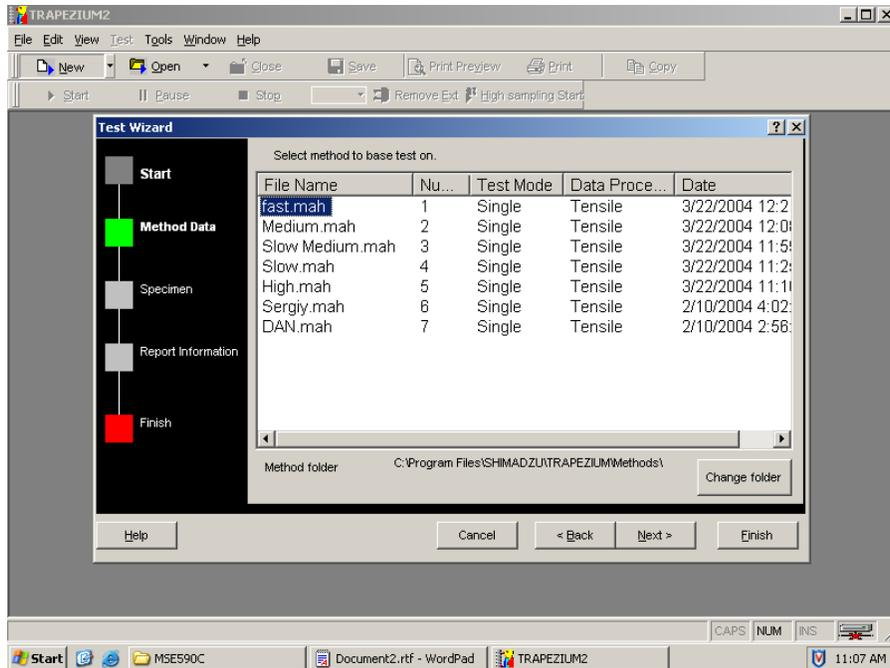

Figure 6.5. Test Wizard Window of TRAPEZIUM2 Software.
- (3). Click on “New” icon () that is located on the top-left side of the main window. The “Test Wizard” window will be displayed (Figure 6.5)).